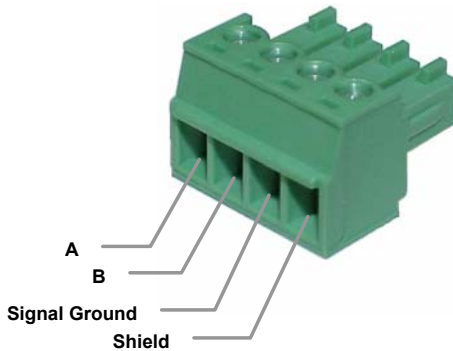

Figure 27: G7/Q7/H7/W7 RS485 Terminal Block (CN3) Connections
- The Toshiba RS485 terminal block connections for G7/Q7/H7/W7 drives are shown in Figure 27 for reference only. Because there are many possible RS485 port configurations & options available for the various Toshiba drives, please refer to the relevant Toshiba documentation for your drive.